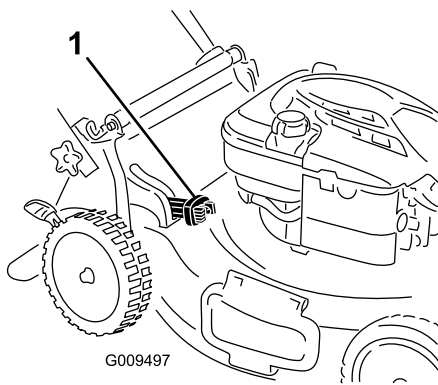

Figure 15
- For bagging the grass and leaf clippings, press the button on the bag-on-demand lever, and move the lever forward until the button on the lever pops up (Figure 15).